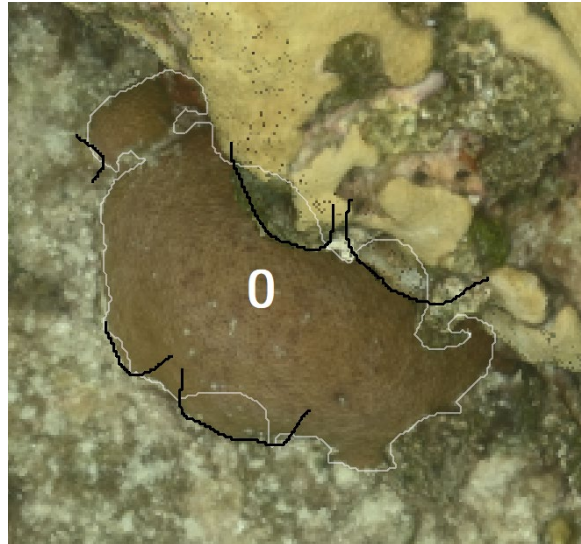

Figure 133. Example of editing the border of a previously made segmentation.
2. Left-click + drag the cursor to draw a line (or multiple lines) to edit borders. Ensure the beginning and the end of the line cross over the previously created segmentation (Figure 133).